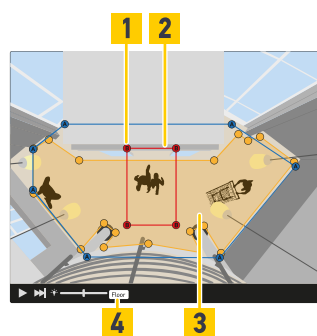

Fig. 104: Editing monitored zones
- To see the floor area (Fig. 104 /3) in the live view click the Floor button (Fig. 104 /4).
- Define the monitored zone (Fig. 104 /2) by moving/adding/deleting points (Fig. 104 /1).